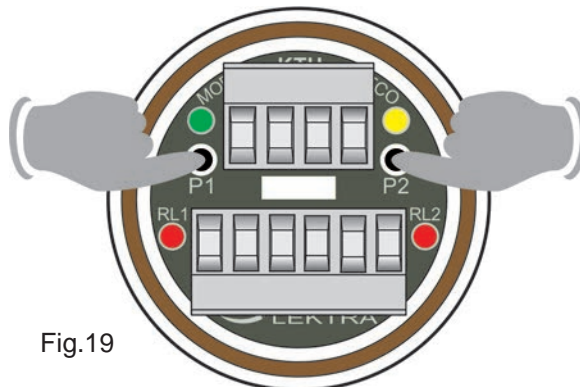

Fig.19
**KTU5** has 2 buttons on board (fig.19), **P1** and **P2**, with which it is possible: